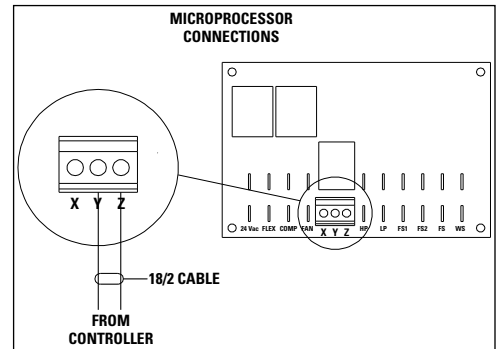

Figure 3-26 —
4. Connect wiring from the PPC-CON low-voltage heater control terminals 8 & 9 to heat pump microprocessor board options terminal block; use terminals: "Y" and "Z" (See Figure 3-26).